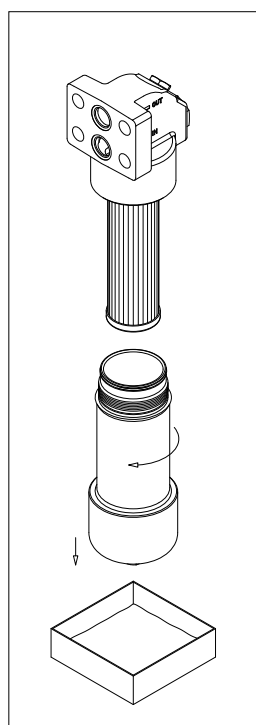

fig. 20
- (Fig. 20) Unscrew the filter bowl after placing a vessel to collect the operating fluid